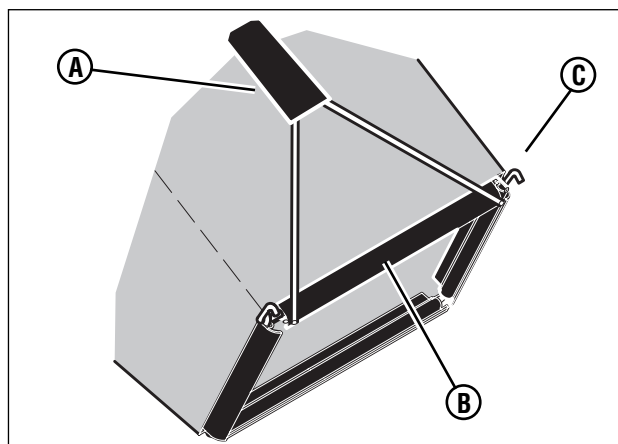

Figure 6: Installing the bag clips
2. Make sure the handle **(A, Figure 6)** is on the outside of the grass bag.
3. First, attach the clips **(B, Figure 6)** to the side of the frame assembly **(C)**. Next, attach the clips to the top and bottom of the frame assembly.